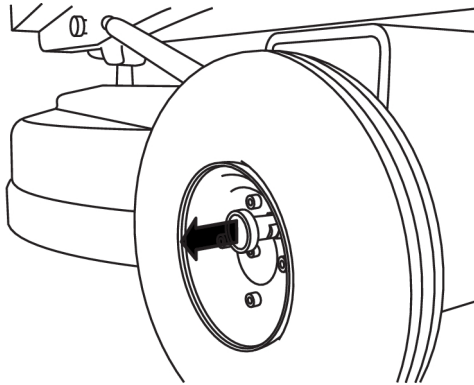

Figure 4-3. Decouple the wheels
1. Decouple the wheels by pulling the locking pin straight out, see Figure 4-3, page 18.